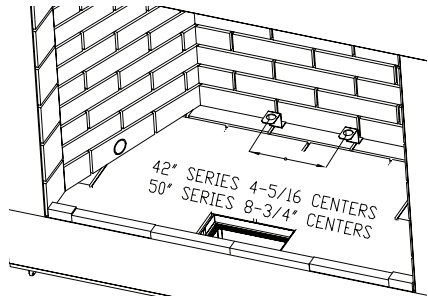

Figure 25 - Installing Grate Retainers
1. Place the provided grate retainers on the hearth as shown in Figure 25. The back of the retainer will be flush with the rear firebrick wall. Mark the center of the hole on the hearth with a marker.